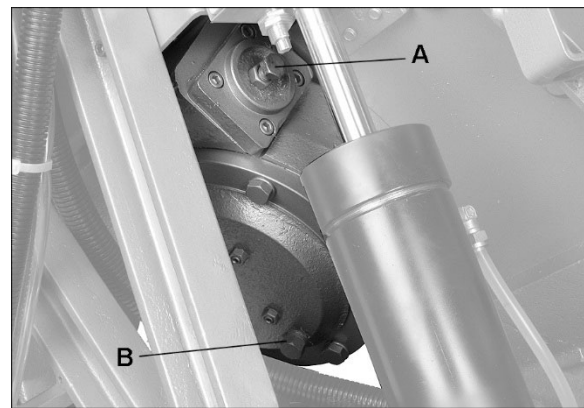

Figure 10-1
1. Remove drain plug (B, Figure 10-1) and allow lubricant to drain completely. Reinstall drain plug.
2. Remove oil fill plug (A) and fill gearbox with 850mL (0.9 qt.) of Mobil™ SHC 634 gearbox oil, or equivalent. Replace fill plug.